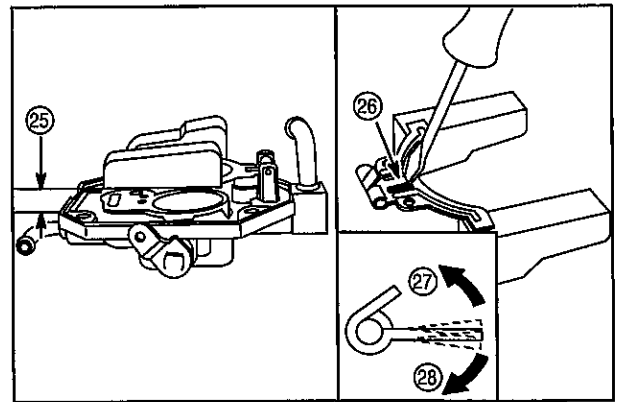

Fig. 112
20. Invert upper carburetor body as shown in **Fig. 112**.
- The float should be parallel (25) with carburetor bowl mounting surface.
- If not, use a small screw driver to bend tang (26) and lower (27) or raise (28) the float level as shown.